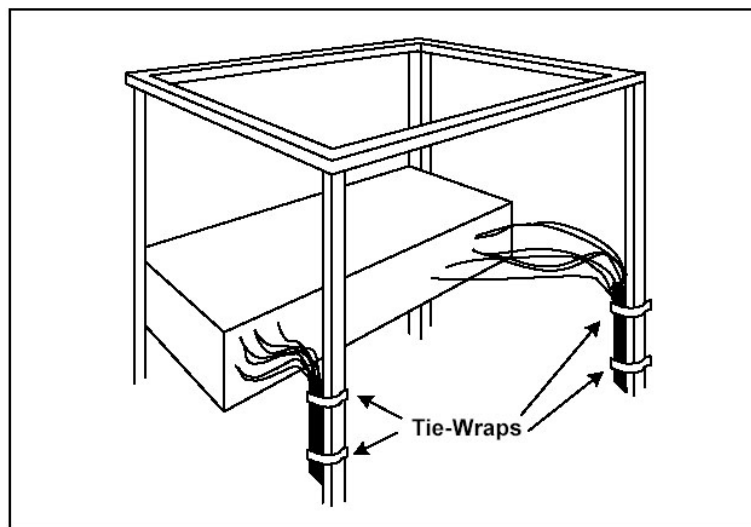

Figure 4. Cabling
2. Provide proper support for each cable during the cabling process. The use of tie-wraps is recommended, as shown below in Figure 4.